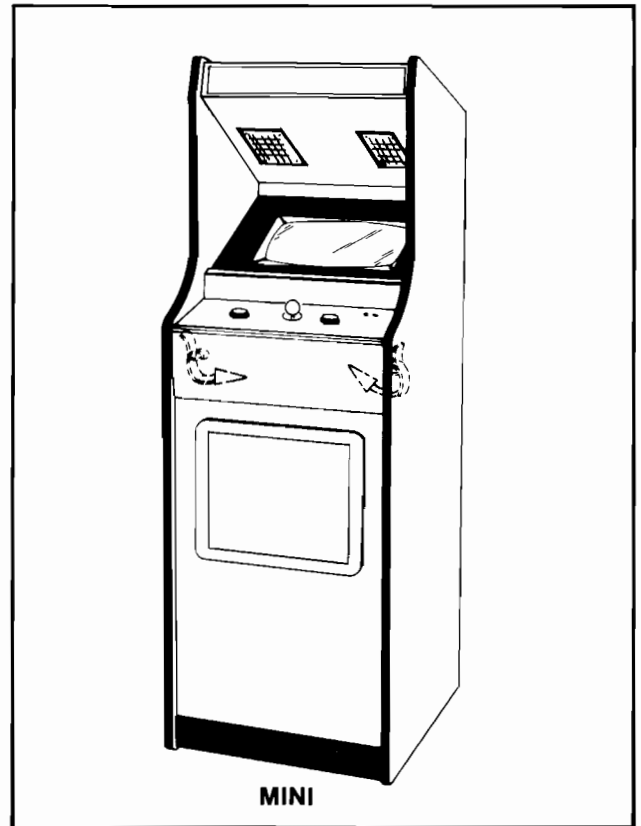

Figure 2-3 Opening the Control Panel - Mini
### 2.4.2 MINI MODEL: (See Figure 2-3)
- The control panel is held in place by two latches. See Figure 2-3.